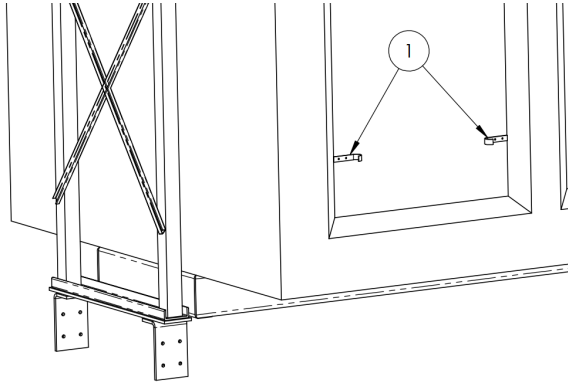

Figure 4.1
Bolt or weld front J-Hooks (1) as shown on driver's side of dump bed near front (Figure 4.1).